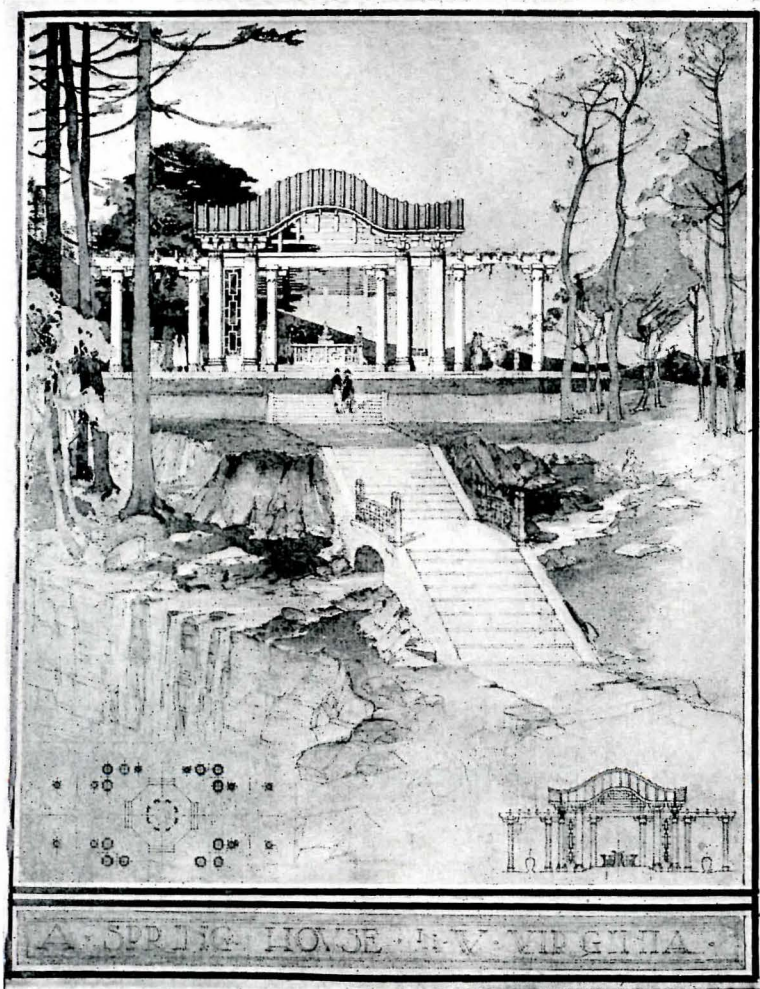
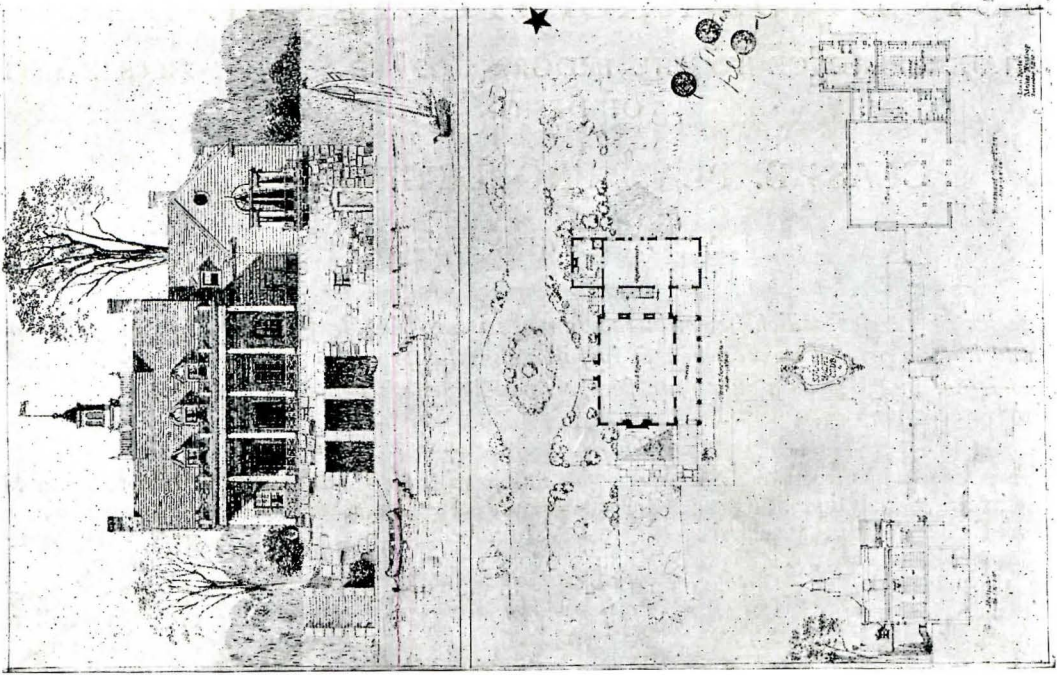
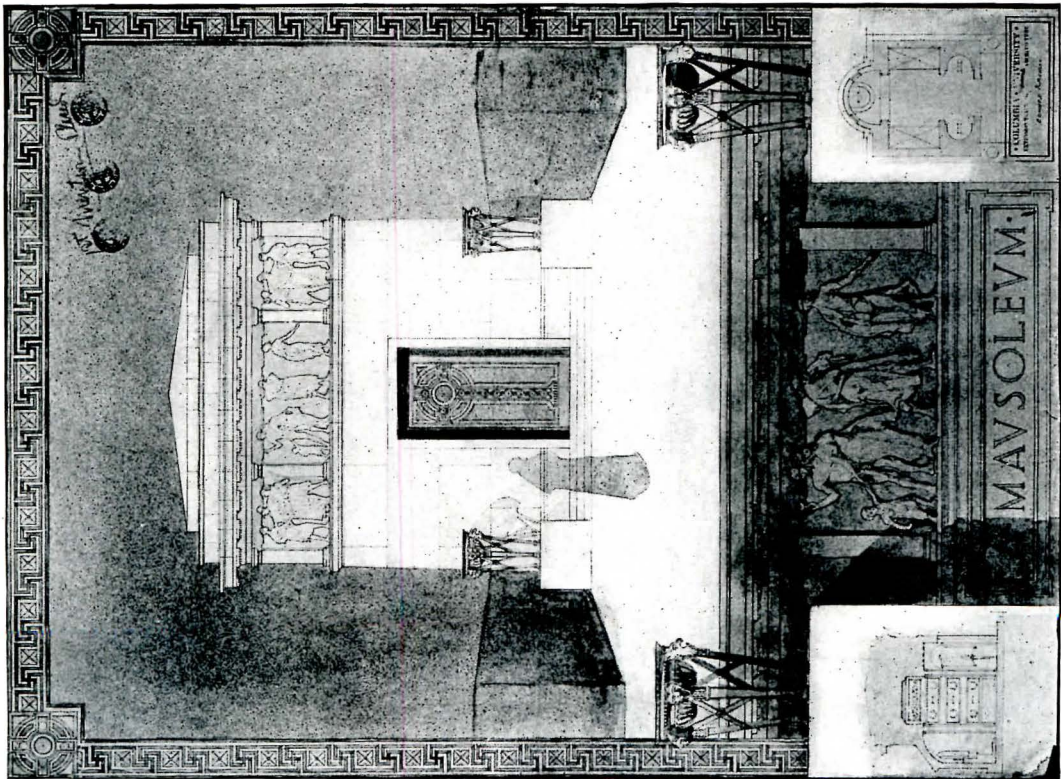
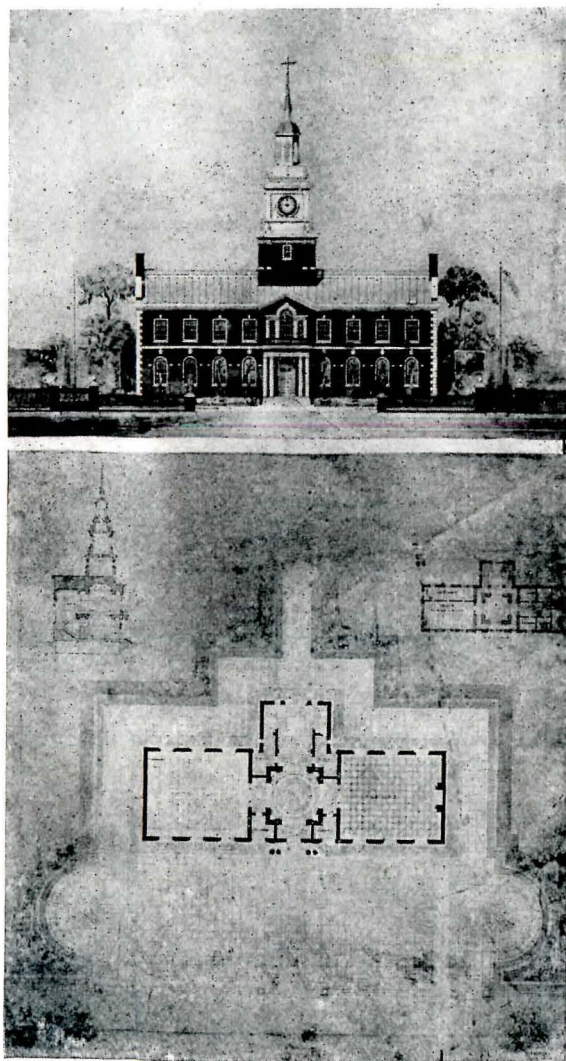

Figure 99. Class B. Problem, "A Spring House,"
Figure 97. Class B. Problem. "A Yacht Club."
Figure 96. Analytique. "A Mausoleum." E. Kronish,
Figure 100. Class B. Problem. "A Building for a State Historical Society."
ample of each for illustration, Figure 96, a Mausoleum being the Analytique, and Figure 97, a Yacht Club, being the B-Plan problem. These are each excellent pieces of work of their class.
2. "Character" in the "parti" or scheme as well as in the treatment of façade. Will the program be better suited by a formal or an informal scheme? It may be symmetrical and yet informal, as in Figure 99, or it may be unsymmetrical and formal. The unsymmetrical informal scheme, as in Figure 97, or the symmetrical formal scheme as in Figure 100 are more usual. In any event the solution of a problem must be fitting in character.